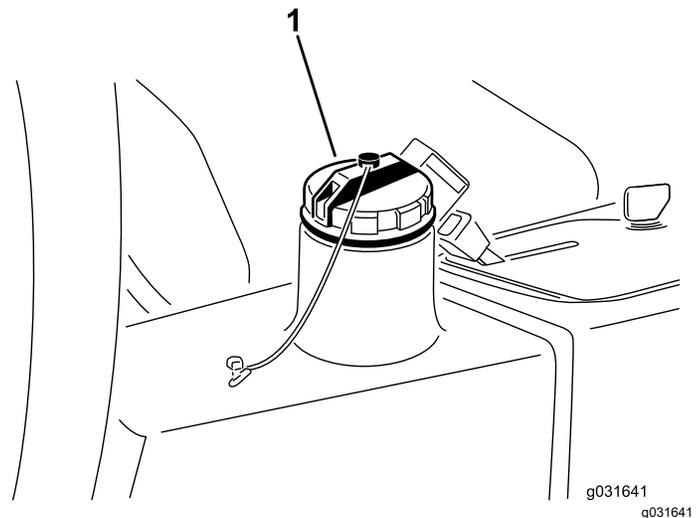

Figure 59
2. Clean the area around the filler neck and hydraulic-tank cap (Figure 59).
3. Remove the hydraulic-tank cap (Figure 59).